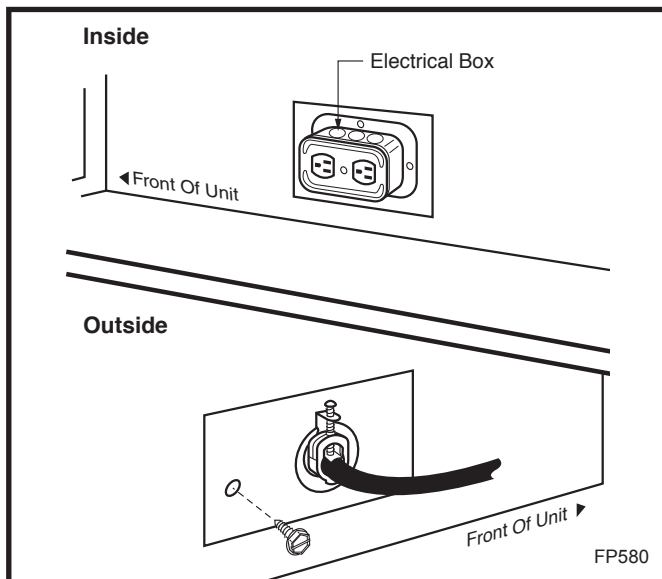

Fig. 11 Junction box (EB-1) hook-up.
Secure the EB1 assembly to the inside of the electrical box coverplate using two (2) screws. Attach the cover to the face of the EB1 while being careful to position excess wire completely within the EB1. Attach the coverplate to the fireplace. (Fig. 11)